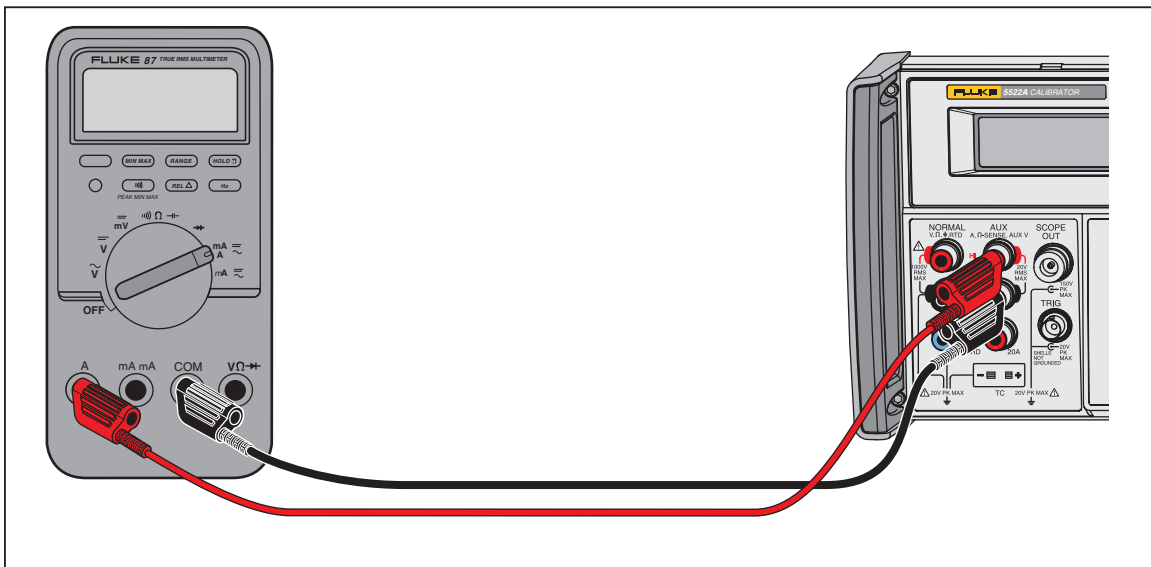

Figure 4-20. Cable Connections for Testing an 80 Series High Amps Function
- b. Verify that the calibrator is in standby and connect the DMM as shown in Figure 4-20.